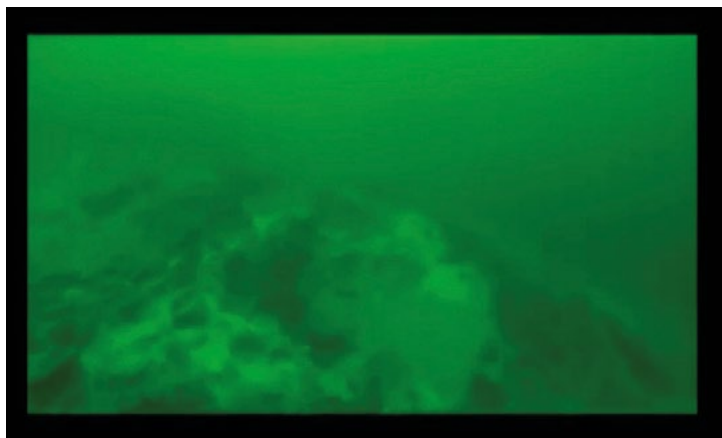

Figure 10: Basin-shaped gas-vent in Lake Rotomahana. (Frame-capture © Copyright W. Fisher; B-2016b).
The marine team claims first relied on sonar imagery, interpreted as terrace basins. We are the only investigators to scuba-dive Lake Rotomahana, and their sonar imagery resembles basin-shaped vents and wave-terraces we filmed. The basin-vents emitted gas and could not be terrace basins; for they had imperforate bases. Wave-terraces formed on rocky shelf features as the new lake filled. Both were videoed in B-2016b and see Figure 10.
For example, sonar from the Pinnacle locality naturally returns strong signals. The marine team reported bubble-plumes here, indicating vents as in Figure 10 (B-2016b). On sonar, these may resemble Terrace basins. We found such rocky lake-floor at each dive location; something unsurprising in a crater lake.
*Keam ... top of the Pink Terraces would be located ~1160 m bearing ~245° from The Pinnacle. If we then project a line from the present-day position of The Pinnacle in Figure 5B towards 245°, remarkably we intersect the terrace-like features seen in Figure 10 after ~1085 m ... (DR-2016a)*